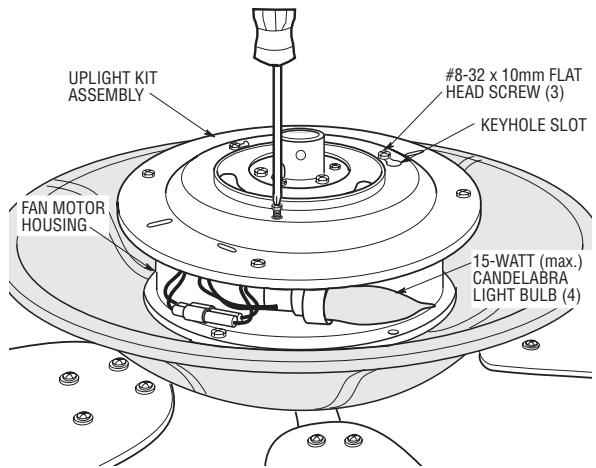

Figure 5
- 10. Unscrew and save one of the three #8-32 x 10mm flat head screws in the fan motor housing. (Figure 5).
- 12. Rotate the uplight kit assembly clockwise to engage the keyhole slots (Figure 5). Secure the light kit assembly to the fan motor housing by threading the previously removed screw into the remaining hole. Tighten the three screws at this time.
- 13. Install four 15-watt (maximum) candelabra light bulbs (not supplied) in the uplight sockets (Figure 5).